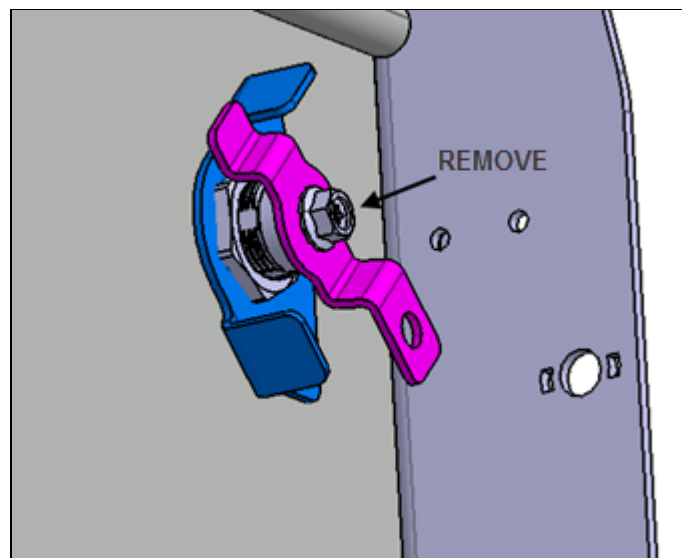

FIG.4 BARREL HEX SCREW
4. Remove the hex screw retaining the latch plate to the cylinder barrel tip (Fig.4).